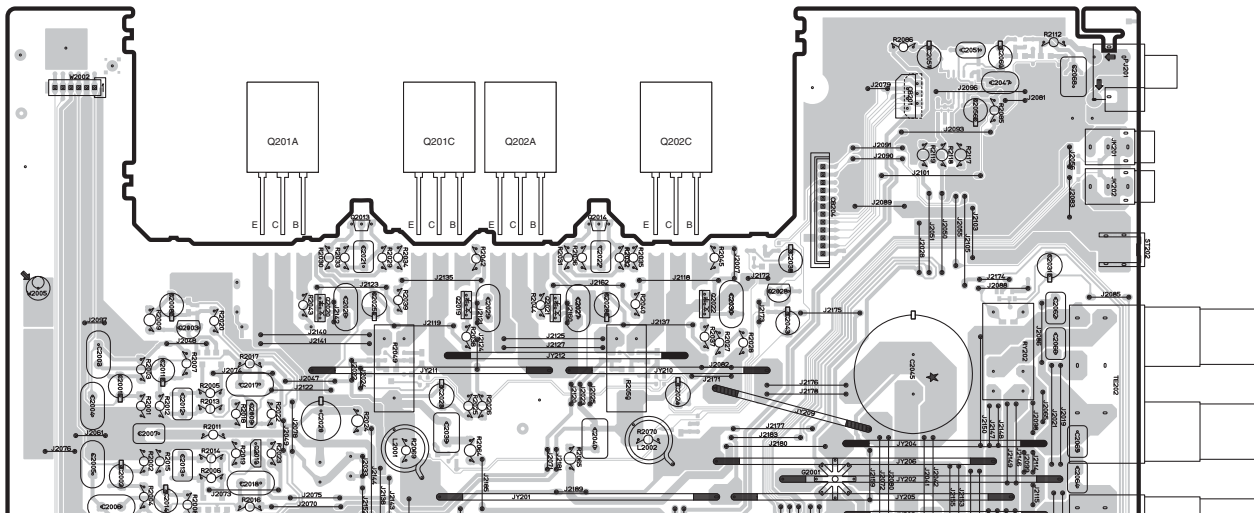

Fig. 5
**When checking the MAIN (1) P.C.B.:**
- Spread the rubber sheet and the cloth. Then place this unit on the cloth upside down. (Fig. 5)
- Remove 6 screws (14) and then remove the bottom cover. (Fig. 5)